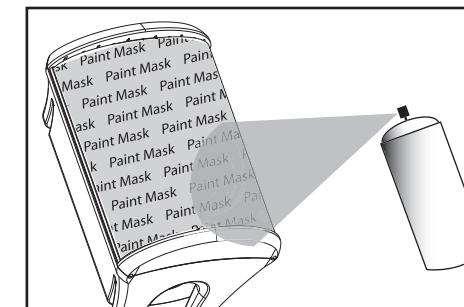

FIGURE 9
4. Using the keyhole slots in the bracket as a template, mark the installation location of the two keyhole slots with a pencil. You can do this by removing the bracket knobs on the top and bottom of the speaker and removing the bracket, or by leaving the bracket connected to the speaker [figure 9]. Orient the bracket so that the small ends of the keyhole slots are facing "up" according to the direction of installation. Reattach the bracket to the speakers, if you have removed it, by reinserting it into the bracket gap and then tightening the bracket knobs.